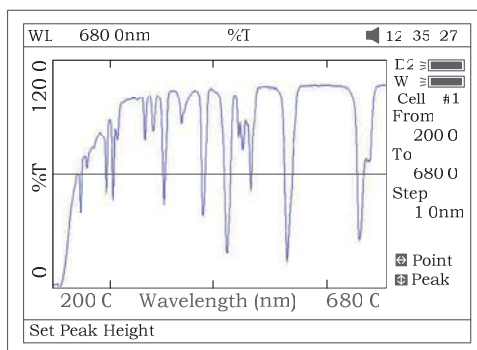

Fig 48
- 6 Press **[F3]** to search the Abs/%T value of the scan. There are two ways for you to search (Fig 48).